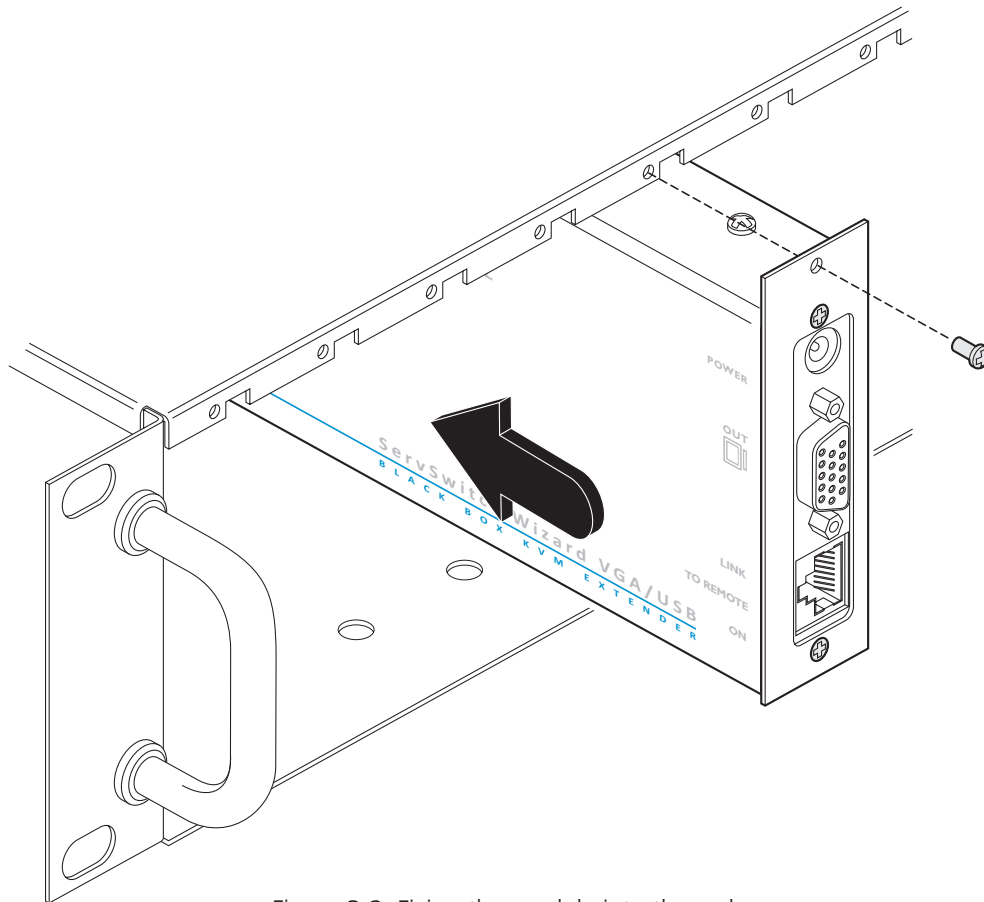

Figure 3-2. Fixing the module into the rack
- 5 Use the third (pan-head) screw, in the top hole of the rack securing plate to fasten the module to the rack as shown in Figure 3-2: